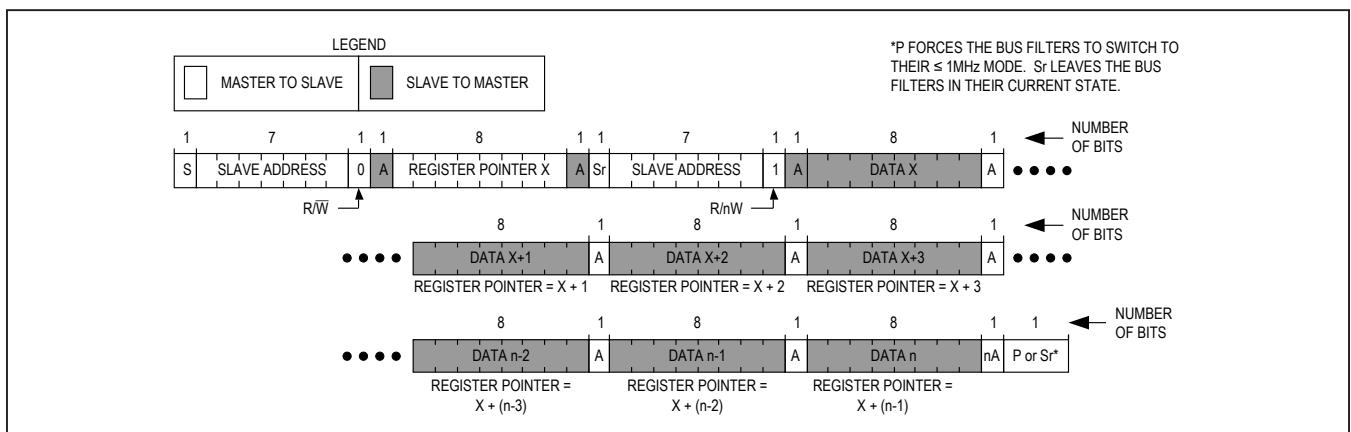

Figure 12. Reading Continuously from Sequential Registers x to n
- 3) The addressed slave asserts an ACKNOWLEDGE (A) by pulling SDA LOW.
- 8) The addressed slave asserts an ACKNOWLEDGE (A) by pulling SDA LOW.
- 11) The master sends a STOP condition (P) or a REPEATED START condition (Sr). Issuing a P ensures that the bus input filters are set for 1MHz or slower operation. Issuing a REPEATED START (Sr) leaves the bus input filters in their current state.
Figure 12 shows the protocol for reading from sequential registers. This protocol is similar to the read byte protocol except the master issues an ACKNOWLEDGE (A) to